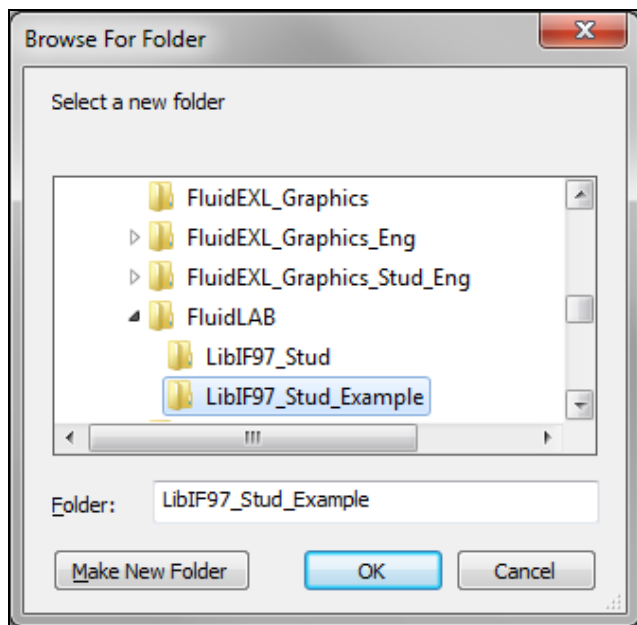

Figure 3.8: Choosing the "LibIF97_Stud_Example" folder
- Find and select the directory "C:\Program Files\FluidLAB\LibIF97_Stud_Example" in the pop-up menu (see Figure 3.8).